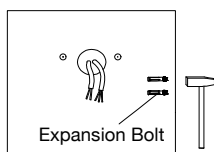

Figure 10
- STEP 2:** Knock the expansion bolts into the wall. (FIGURE 10)